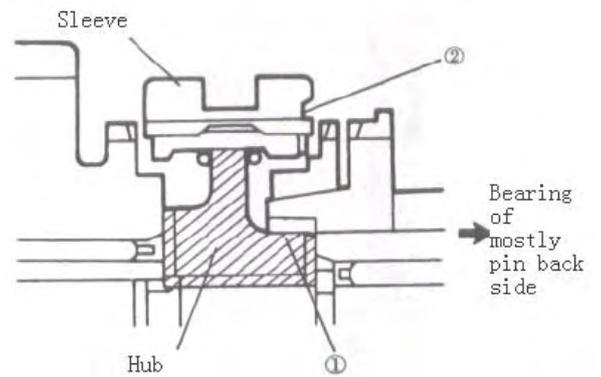
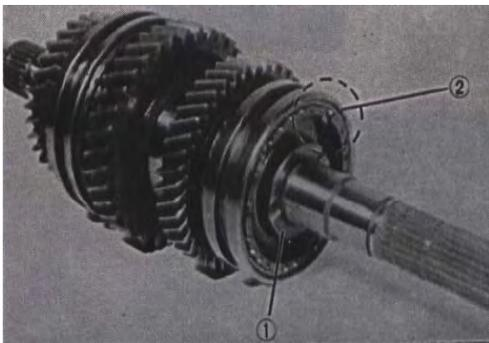

Fig 10-62
Fig 10-63
(6) Install reverse gear bearing, reverse gear and reverse synchronizer hub/sleeve . for proper direction, make sure to install hub so that the side whose inside boss ① is smaller in diameter and longer is directed to main shaft rear bearing, and sleeve so that the side whose inside is stepped ② is also directed to main shaft rear bearing. (FIG.10-62, FIG.10-63)